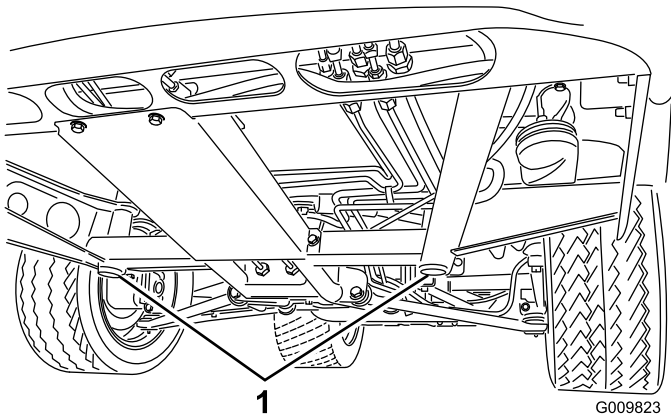
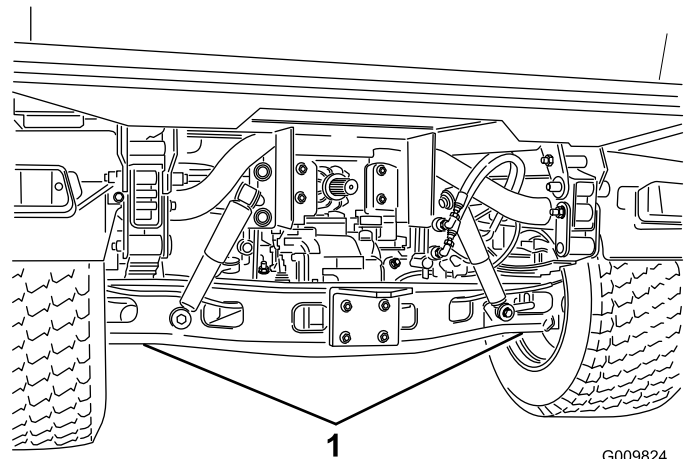

Figure 14
Figure 15
- The jacking point at the front of the vehicle is under the front center frame support (Figure 14) and at the rear it is under the axle (Figure 15).